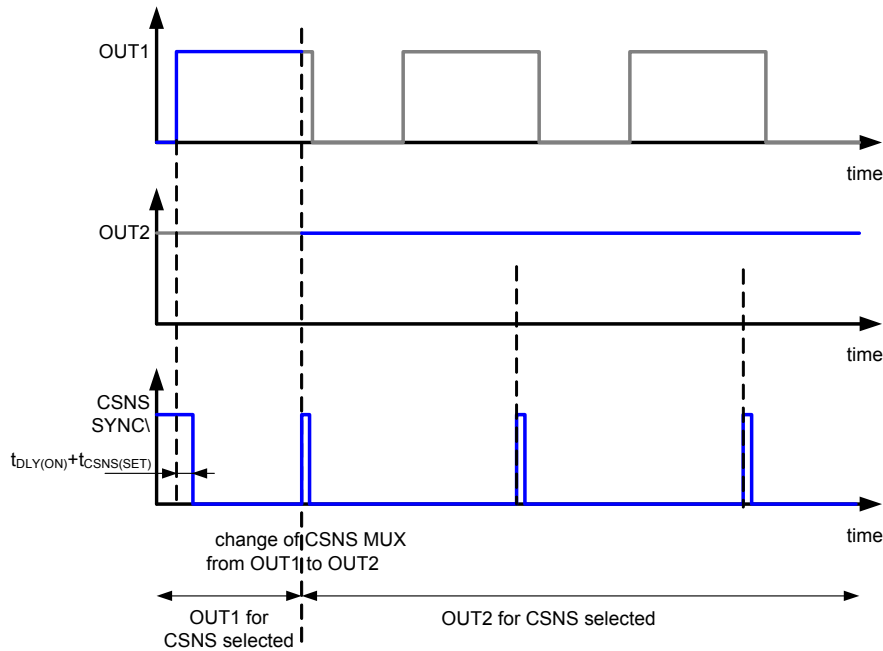

Figure 33. CSNS SYNCB when the output is programmed for 100 %
- when the output is programmed with 100 % PWM, the CSNS SYNCB delivers a logic[0] a high pulse with the length of 100 μ s (typ.) during the PWM counter overflow for TRIG0 and TRIG1/2 settings, as shown in Figure 33